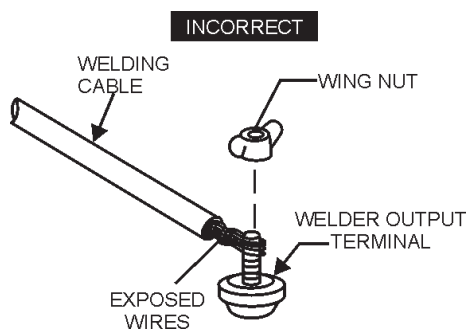

Figure 23. Welding Cable (Bare Wires)
2. Attach the correct size terminal connector to the free end of each cable. **NEVER** connect *bare or exposed* wires (Figure 23) directly to the terminals. Exposed wiring may cause electrical arcing or dielectric breakdown from poor connection.